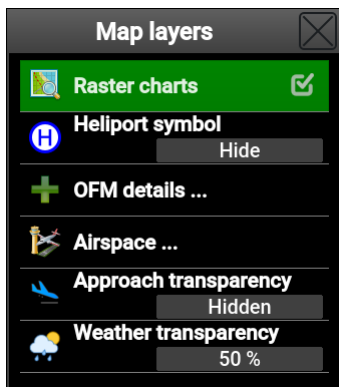

Figure 11: The Map layers window.
Certain map layers can be enabled or disabled and some of them can be tuned. Touching the map layers button (Figure 6, option ⑤) opens a window shown in Figure 11.